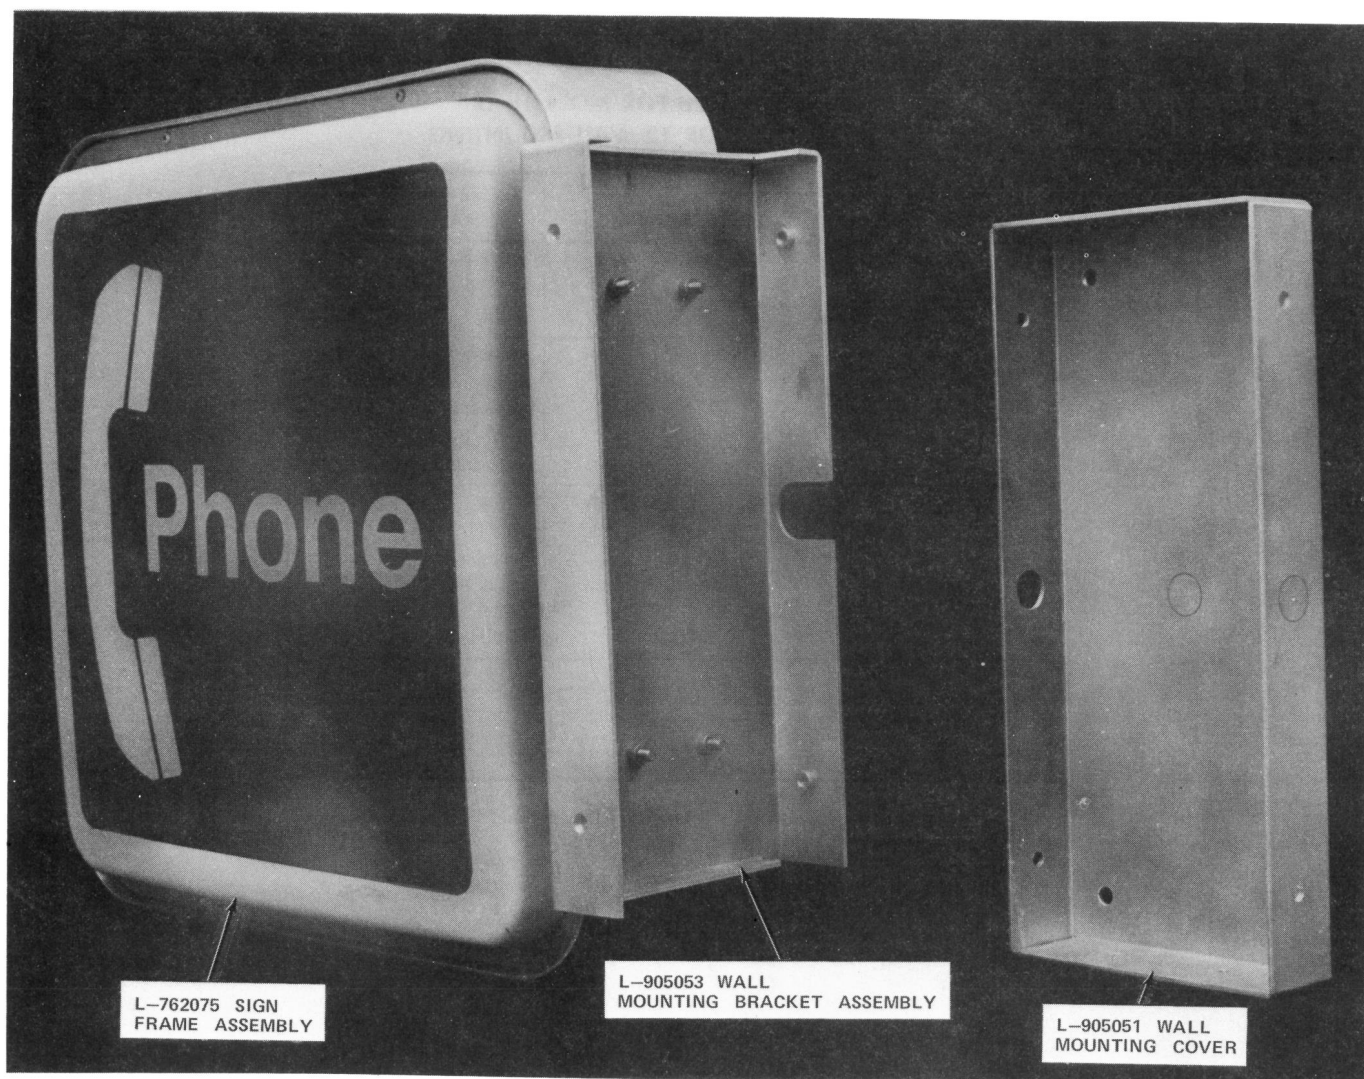

Fig. 35—♦KS-20135, List 2 Sign and List 15 Wall Mounting Bracket♦
- (i) Connect (BK) and (W) leads to lamp base and (G) lead to electrical outlet box. Close hinged side of sign.
3.22 Install the List 2 (Fig. 35) or 12 sign as follows.